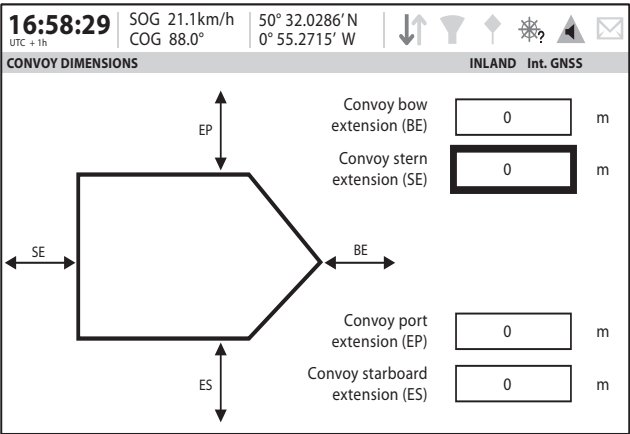

Figure 26 Convoy dimensions screen
- Convoy dimensions - enter the extension beyond the normal vessel size of any convoy attached. See Figure 26.